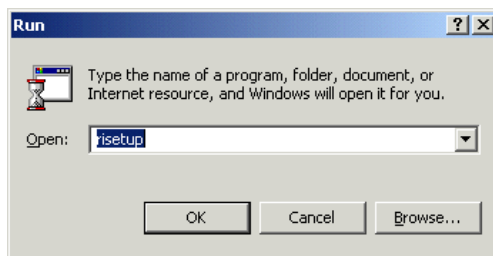

Figure 5-2 Starting Remote installation setup
- d. Scroll down to Remote Installation Services (Figure 5-2).